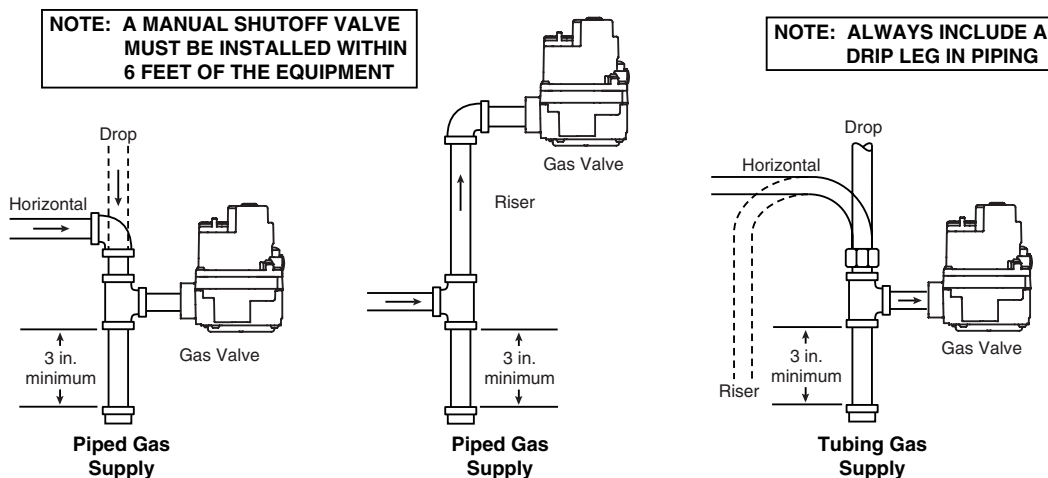

Figure 3. typical gas valve piping
5. Apply pipe joint compound (pipe dope) or teflon tape **that is approved for all gases, only to the male threads of the pipe joints. DO NOT** apply compound or teflon tape to the first two threads (see fig. 3 for typical piping connections).